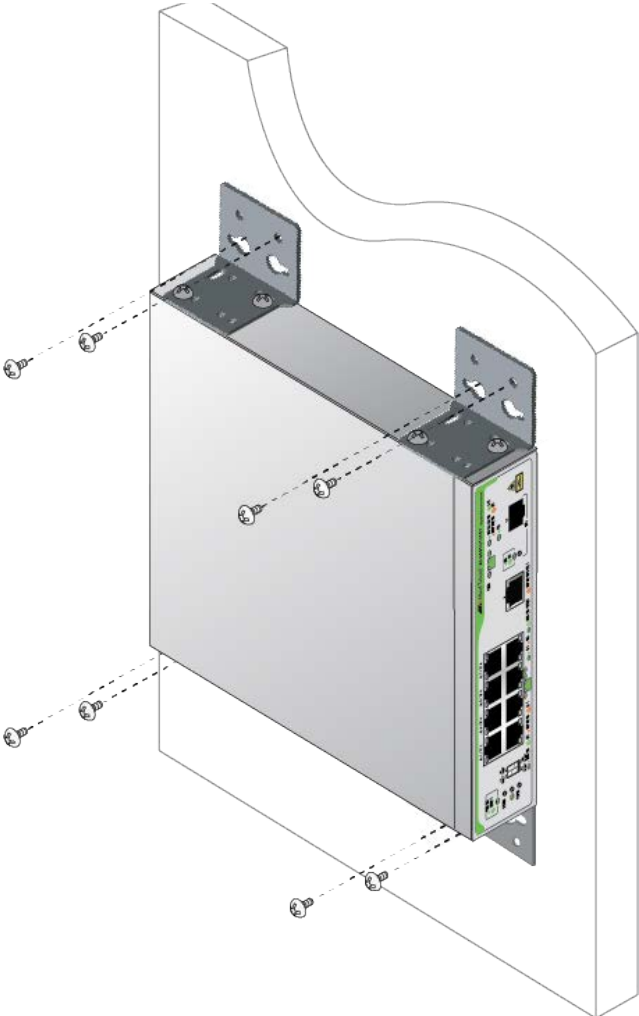

Figure 32. Installing the Switch on the Wall
6. While another person holds the switch at the wall location, secure the switch to the wall using the eight wall mounting screws. See Figure 32 on page 61.